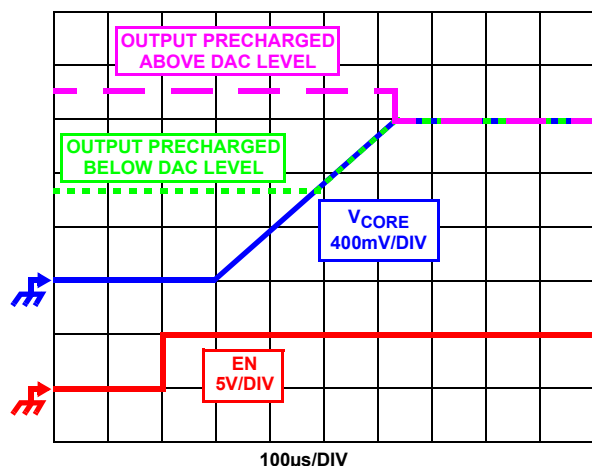

FIGURE 12. SOFT-START WAVEFORMS FOR ISL6328-BASED MULTIPHASE CONVERTER
The ISL6328 features a dual function enable input (EN) for enabling the controller and power sequencing between the controller and external drivers or another voltage rail. The enable comparator holds the ISL6328 in shutdown until the voltage at EN rises above 0.86V. The enable comparator has about 110mV of hysteresis to prevent bounce. It is important that the driver ICs reach their rising POR level before the ISL6328 becomes enabled. The schematic in Figure 12 demonstrates sequencing the ISL6328 with the ISL66xx family of Intersil MOSFET drivers, which require 12V bias.